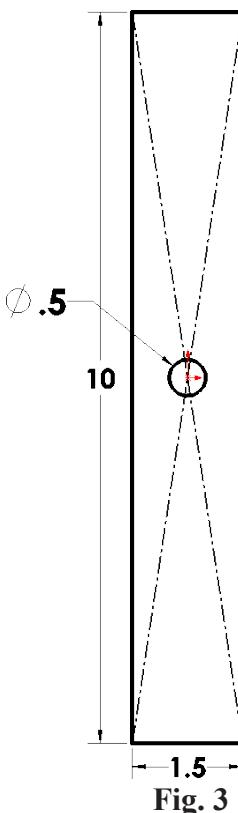

Fig. 3
Step 1. Click **Circle** (S) on the Sketch toolbar.
Step 2. Draw a circle starting at the Origin , **Fig. 3**.
Step 3. Click **Smart Dimension** (S) on the Sketch toolbar.
Step 4. Dimension circle **diameter .5**, **Fig. 3**. The circle will represent the 1/2 inch rod of beam “tester”.